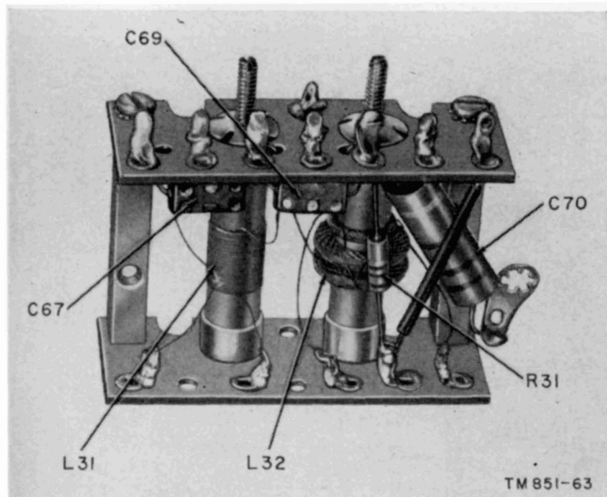
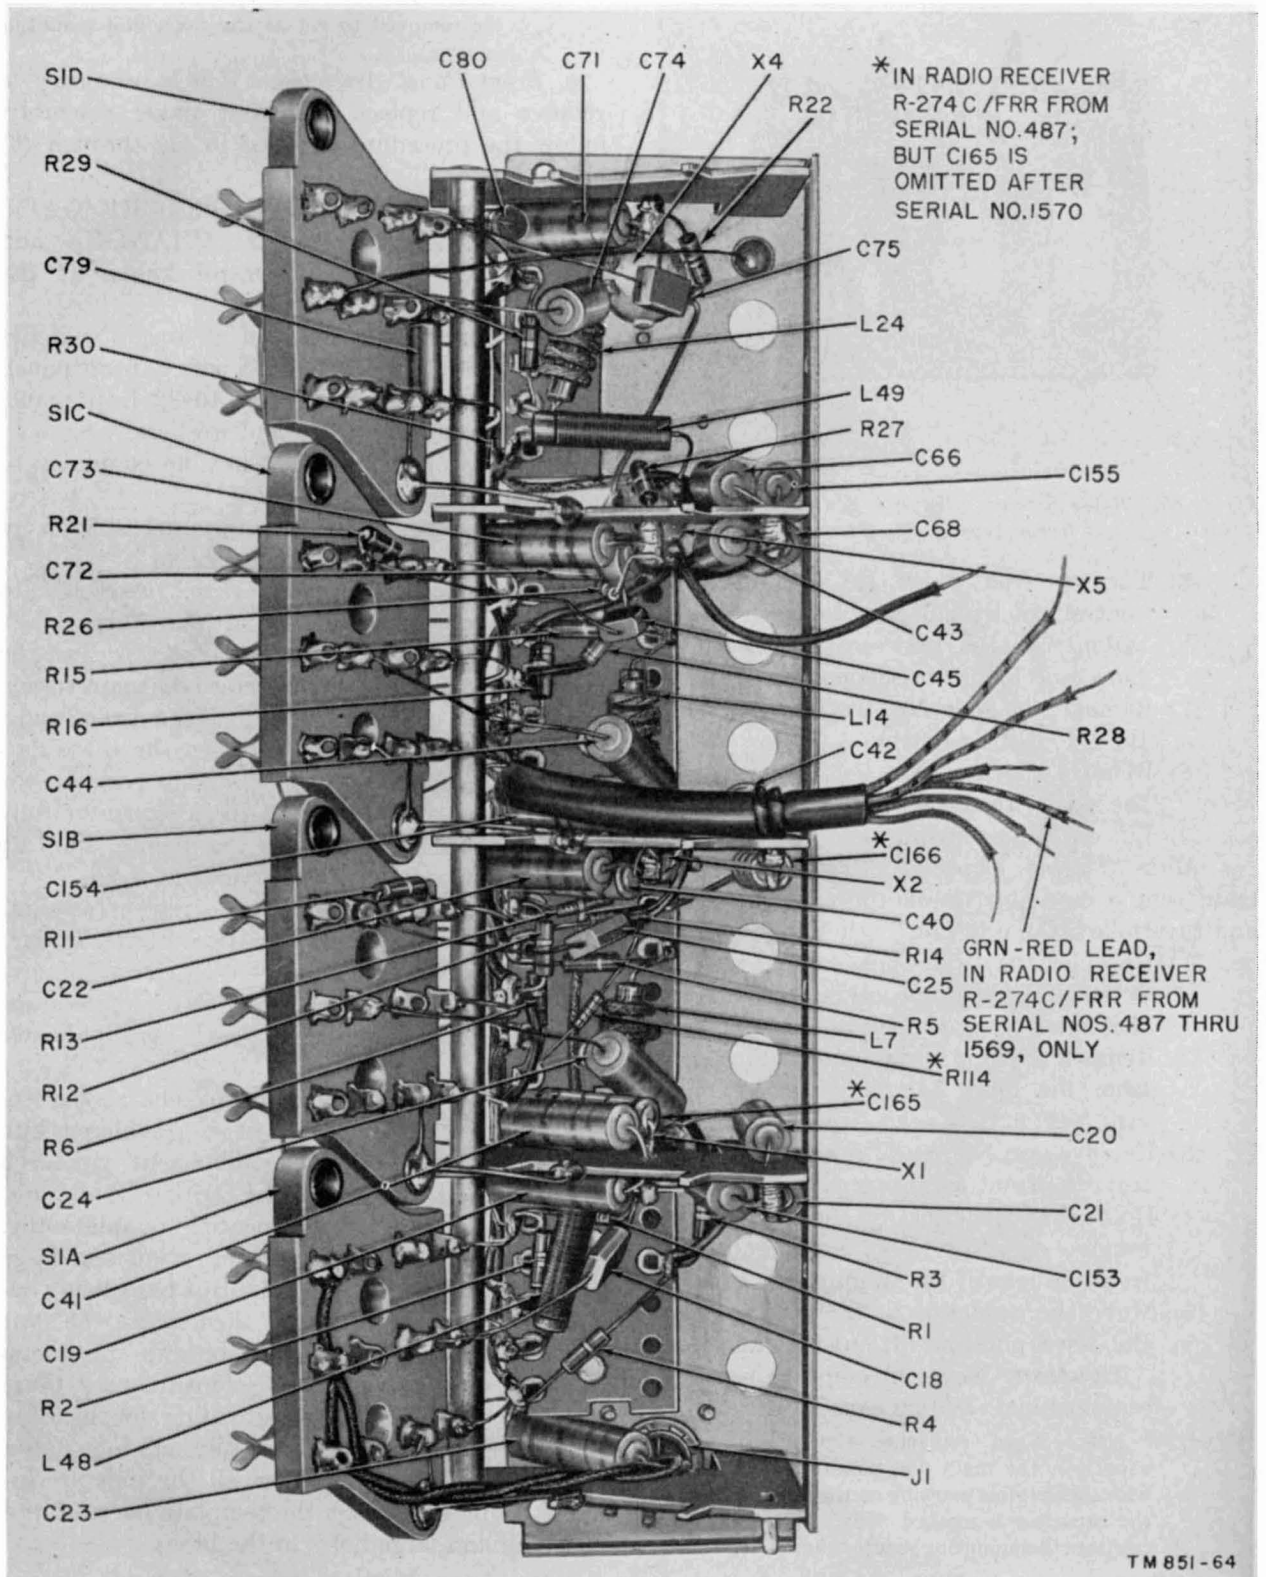

Figure 85. Radio Receiver, all types, first mixer i-f transformer subassembly T1.
Figure 86. Radio receiver, all types, r-f strip subassembly, exploded view.
- (8) Remove the four No. 8-32 mounting screws from the bottom of the chassis to lift out the frequency control unit.
*d. First Mixer Subassembly (fig. 85).* To replace any part in first mixer subassembly T1 in Radio Receivers R-274A/FRR and R-274C/FRR, first remove the frequency control unit as described in *c* above; then continue as follows in all types of the receiver.
- (1) Remove the chassis side shield by removing the ten No. 10-32 and two No. 6-32 screws from the side, and the four No. 10-32 screws on the front panel.
- (2) Remove the two No. 6-32 cap nuts to remove the mixer cover.
- (3) Remove the six No. 6-32 screws to remove the mixer shield.
- (4) Unsolder all ten leads at the top terminal board and all five leads at the bottom terminal board of the mixer subassembly.
- (5) Remove the four No. 6-32 screws to remove the mixer subassembly.
*e. R-F Strip (fig. 86).* To replace any part in the receiver r-f strip, remove it in the following manner:
- (1) Remove the ten No. 6-32 screws to remove the top shield from the tuning unit assembly.
- (2) Unsolder the twelve bus leads from the r-f strip and the four ground straps from the main tuning capacitor.
- (3) Remove the first mixer transformer (T1) cover by removing the two No. 6-32 cap nuts.
- (4) Unsolder the blue, blue/red, top white/black, top red/green, red/white, and yellow/black leads from the r-f strip.
- (5) Unsolder the bare wire from the r-f strip to the XTALS switch.